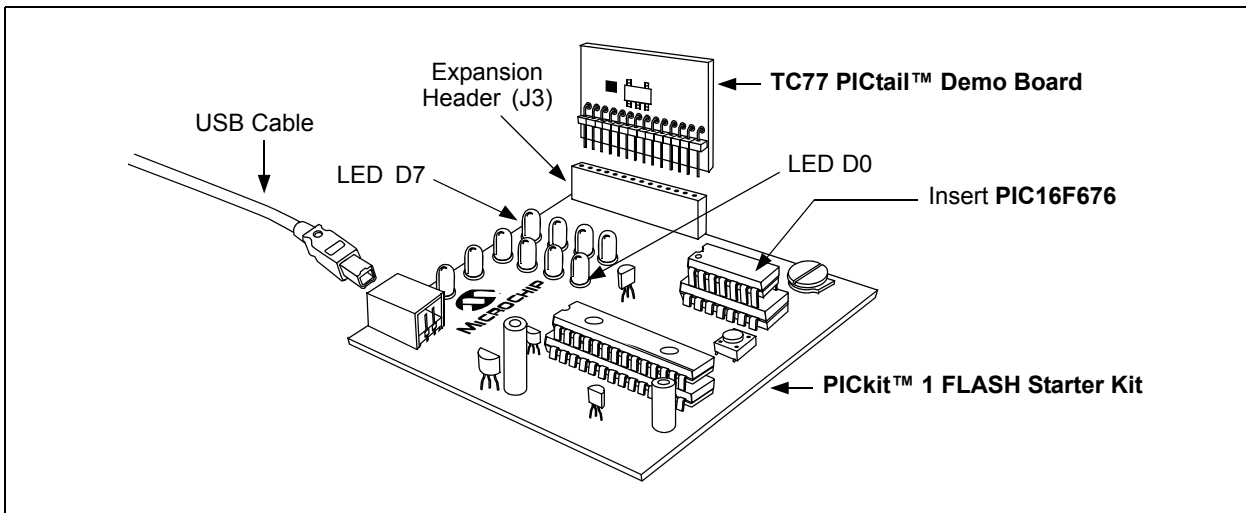
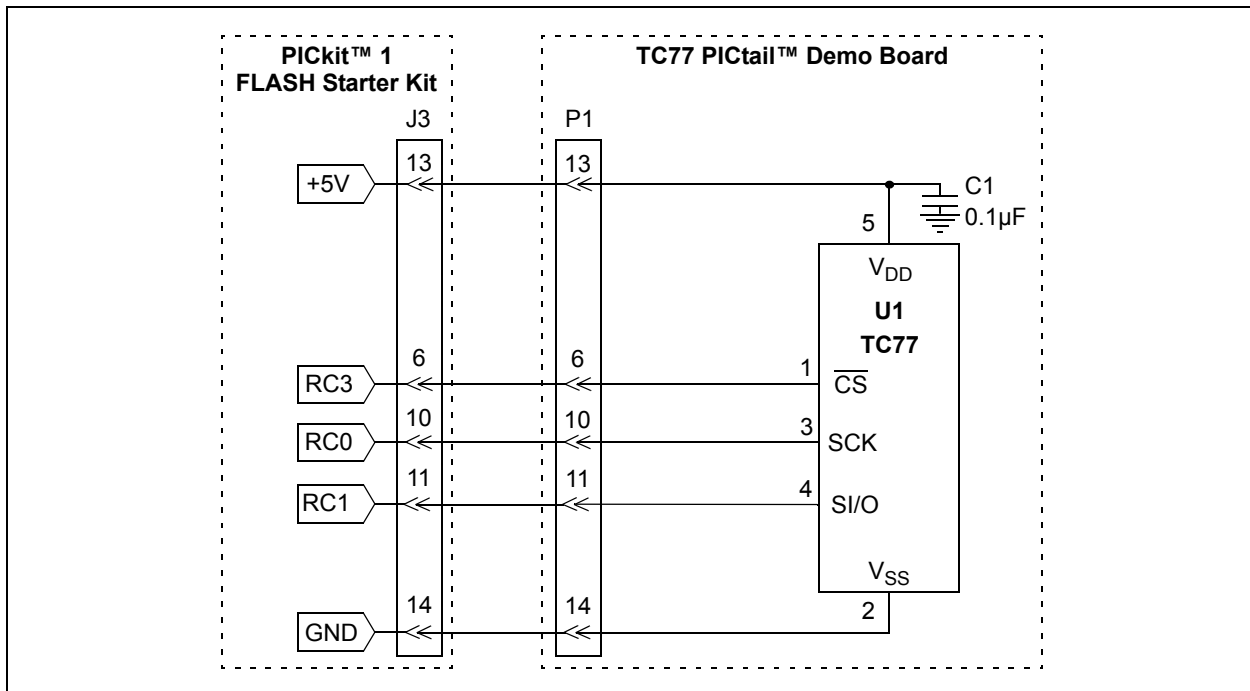

FIGURE 2-2: TC77 Thermal Sensor PICtail™ Demo Board and PICkit™ 1 FLASH Starter Kit.
FIGURE 2-3: Simplified TC77 Thermal Sensor PICtail™ Demo Board Schematic.
1. Connect the P1 header of the TC77 Thermal Sensor board to the J3 connector on the PICkit 1 Flash Starter Kit board. Refer to Figure 2-2 for proper orientation of the TC77 Thermal Sensor PICtail™ Demo Board and Figure 2-3 for a simplified board schematic.